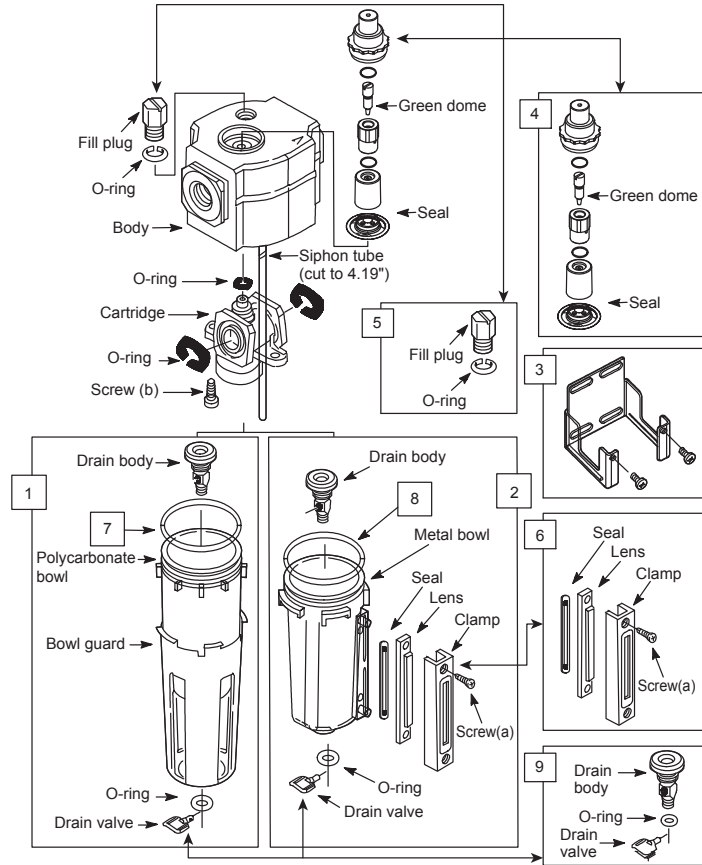

figure 2
## OPERATING INSTRUCTIONS (See Figure 2)
- 1 **Disassembly (See Figure 2)**
- Disassemble in general accordance with the parts illustrated in Figure 2. Do not remove the drain unless replacement is necessary. Remove and replace only if drain malfunctions. Do not remove the siphon tube. Remove and replace Cartridge assembly (green) thru O-ring only if lubricator malfunctions.
- 2 **Cleaning(See Figure 2)**
- 3 **Assembly (See Figure 2)**
- Assemble lubricator as shown on Figure 2.